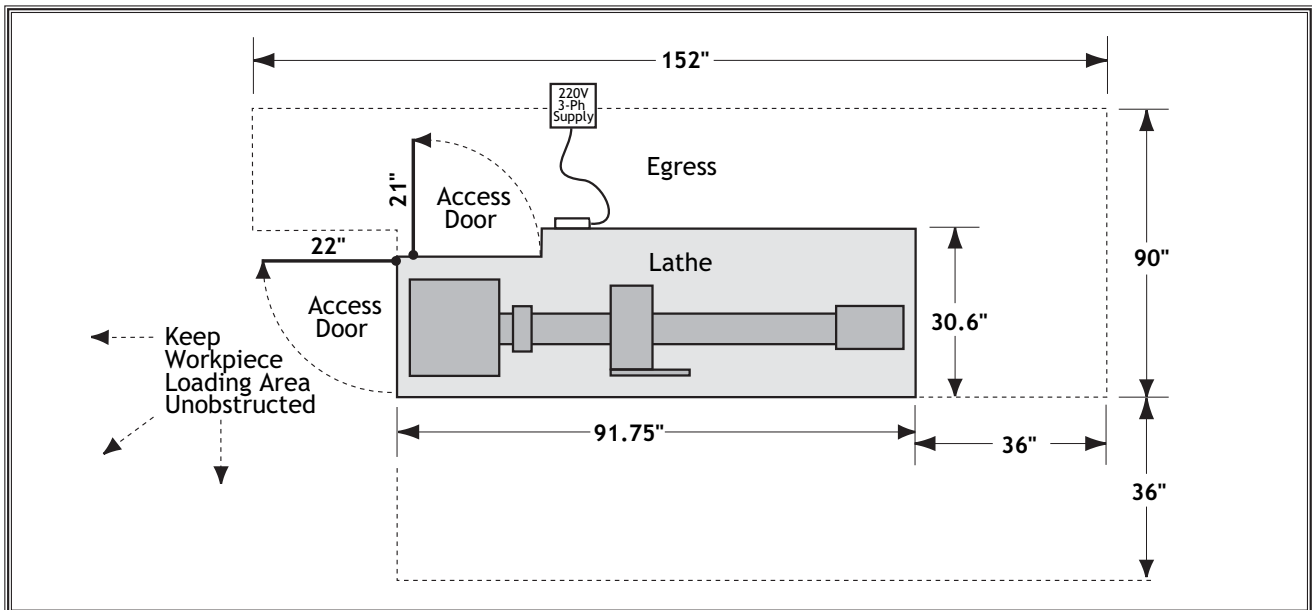

Figure 9. Minimum wall clearances.
- **Working Clearances:** Consider existing and anticipated needs, service panel access, length of rods to be loaded into the lathe, and space for auxiliary stands, work tables or other machinery when establishing a location for your lathe (see Figure 9 for dimensions).